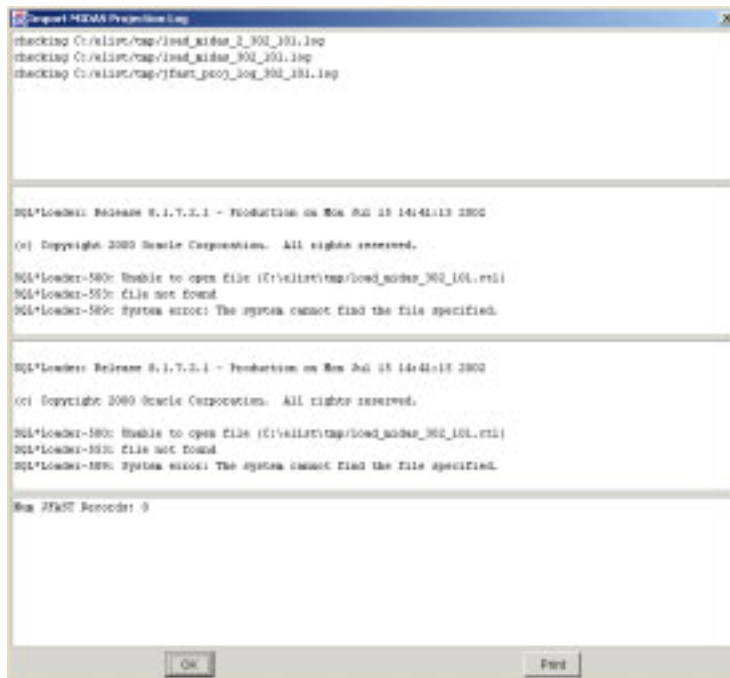

Figure 5.40 Import MIDAS Projection Log Window
- To import the MIDAS log file, click OK. The file is imported, the Import MIDAS Projection window closes, and the Import MIDAS Projection Log window opens (Figure 5.40).